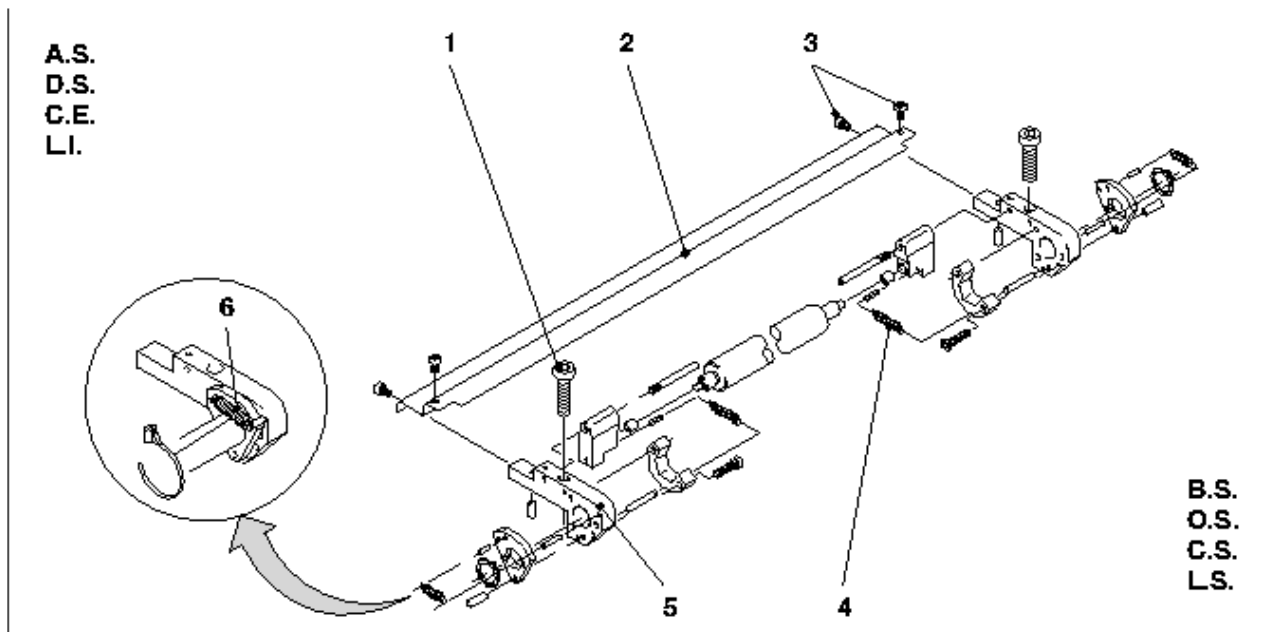
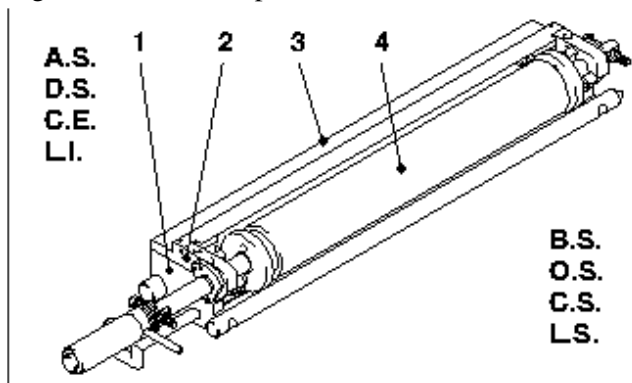
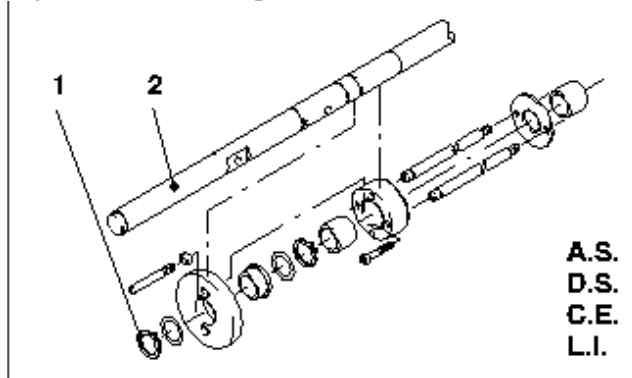

Fig. 4 Blanket washup device
Fig. 5 Blanket washup device
Fig. 6 Blanket washup device D.S.
6. Unscrew the Allen screw (Fig. 4 /1) on D.S. and O.S. and lift the shaft with washup roller (Fig. 5 /4), supporting unit (Fig. 5 /2), and cover (Fig. 5 /3) completely off the trough (Fig. 5 /1).
7. Unhook the tension spring (Fig. 4 /4) on D.S. and O.S.
8. Remove the tension spring (Fig. 4 /6) and cable tie on D.S.
9. Remove the circlip (Fig. 6 /1).
10. Unscrew the Allen screws (Fig. 4 /3) on O.S. This loosens the cover plate (Fig. 4 /2).
11. Remove D.S. bearing holder (Fig. 4 /5) with cover plate from the shaft (Fig. 6 /2) in the direction of D.S.